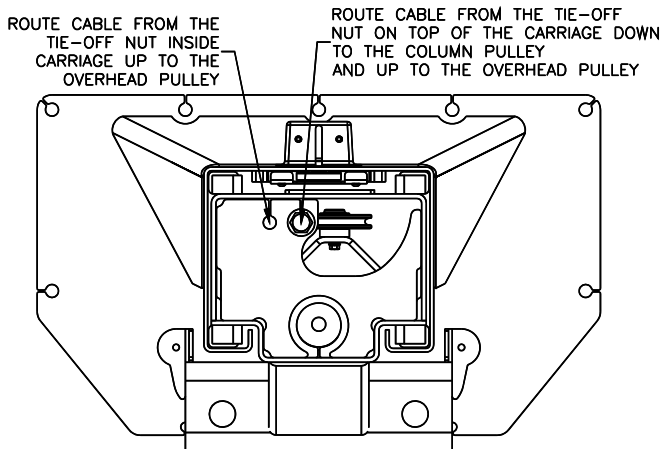

Fig. 9 – Cable Assembly/Cable Extensions
- 18) Route the synchronizer cables as shown in **Fig. 9**. Routing the cable from the inner hole location on the top of the carriage down to the column pulley and up to the overhead pulley. From the other hole location rout the cable up to the overhead pulley.